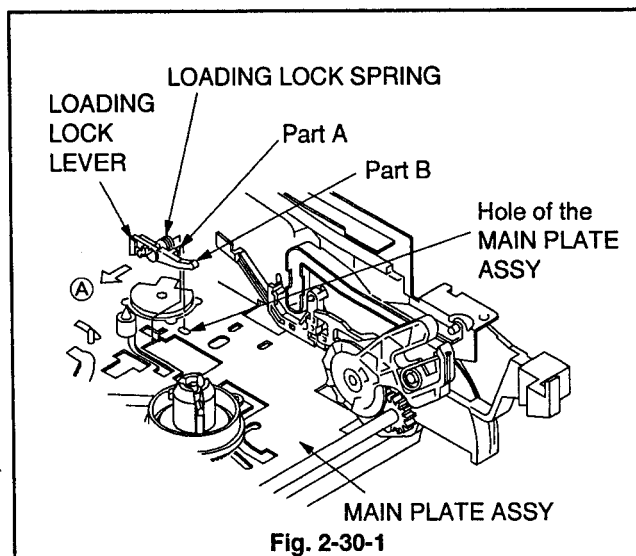

Fig. 2-30-1
1. Remove the Part A of the LOADING LOCK SPRING, shown in Fig. 2-30-1, through the Hole of the MAIN PLATE ASSY.
2. Move the LOADING LOCK LEVER in the direction shown by arrow (A) while pushing the Part B of it to remove the LOADING LOCK LEVER, and LOADING LOCK SPRING, as shown in Fig. 2-30-1.
3. Install the LOADING LOCK LEVER with the LOADING LOCK SPRING attached, shown in Fig. 2-30-1, on the MAIN PLATE ASSY.
4. Insert the Part A of the LOADING LOCK SPRING, shown in Fig. 2-30-1, into the Hole of the LOADING LOCK SPRING.